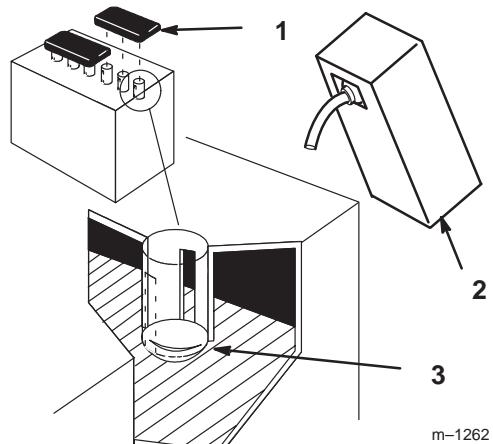

Figure 5
7. Remove filler caps from the battery. Slowly pour electrolyte into each cell until the electrolyte level is up to the lower part of the tube (Fig. 5).
10. Slowly pour electrolyte into each cell until the level is once again up to the lower part of the tube in the battery case and install covers (Fig. 5).